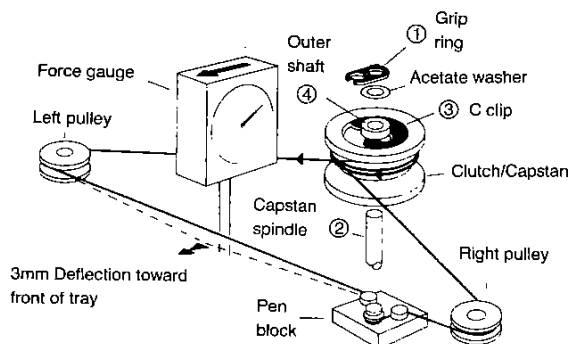

Figure 3.19 Servo drive cord installation
- 3) Remove the grip ring No. 1, Figure 3.19, from vertical shaft No. 2, then remove the circlip No. 3 from the phosphor bronze outer shaft No. 4.
- 7) Hold the pen tray with scale plate forward. With the hole in the capstan facing the scale plate, wind the left-hand half of the cord loop **three times clockwise** round the capstan, and then round left-hand pulley, Figure 3.19. Run the other half of the cord loop round the right-hand pulley.